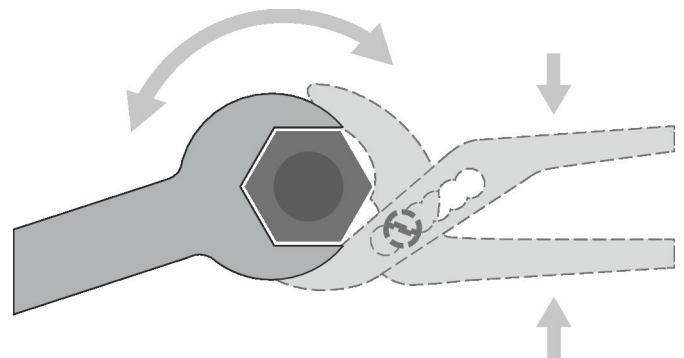

Fig. 34: Using water pump pliers to counter the tightening force
1. ▶ Hold the threaded pipe tail of the heat exchanger with water pump pliers ( Fig. 34 /2).
2. ▶ Hold the threaded pipe tail with the pliers while you use a spanner (hexagonal profile, Fig. 34 /1) to connect the heat exchanger to the pipework (pipework by others).